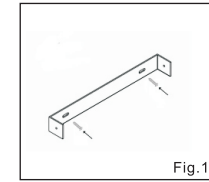

Fig.17
- Mark the desired position of the duct cover mounting bracket on the wall. Fix and secure duct cover mounting bracket with two screws (not included). (Fig.17 )